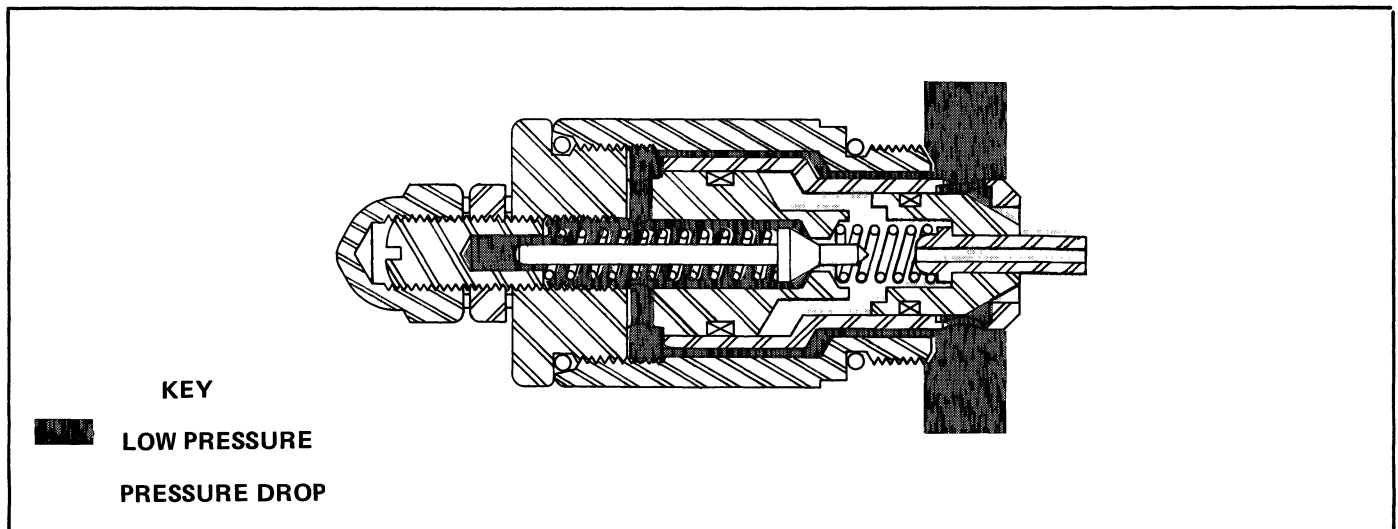

Figure 12.
1. Figure 12. To illustrate this function, assume that the bucket is loaded, at a maximum height and the engine is running at low idle. When the hoist control lever is positioned to lower the boom and dipper, oil may leave the piston side